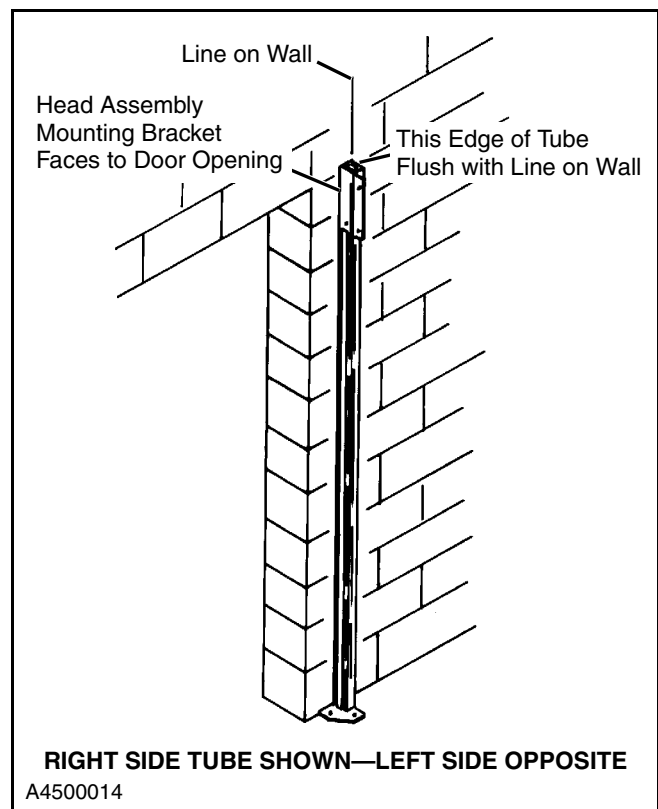

Figure 11
(See Figure 11.)
1. Mount the right side tube perpendicular to the floor as shown in Figure 11. The outside edge of the tube is located on the line drawn on the wall.